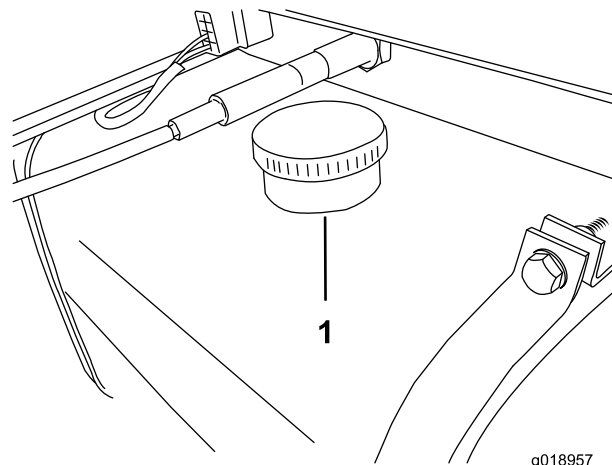

Figure 41
4. Clean the area around the filler neck of the hydraulic tank (Figure 41).